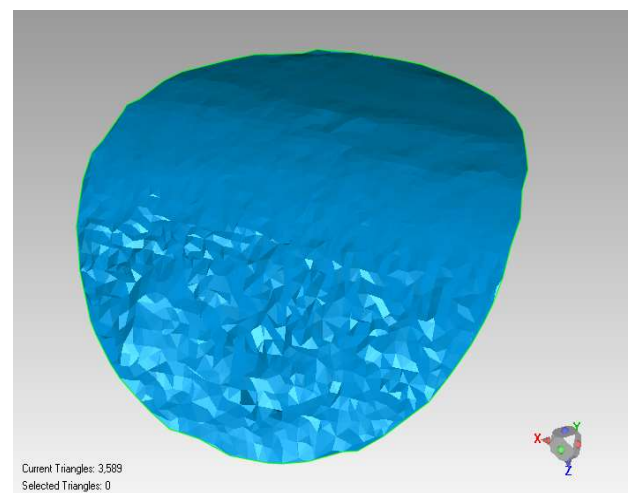

Figure 49
- A polygon preview will be rendered at the area selected as shown in **Figure 49**.